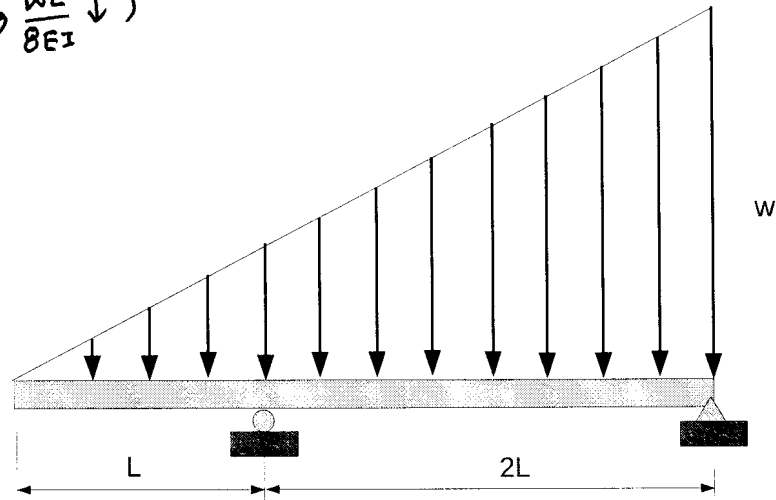

Figure 6.
6). A beam is loaded and supported as shown in Figure 6. Determine the deflection at the left end and midway between the supports. It is assumed that the flexural is  $EI$ .